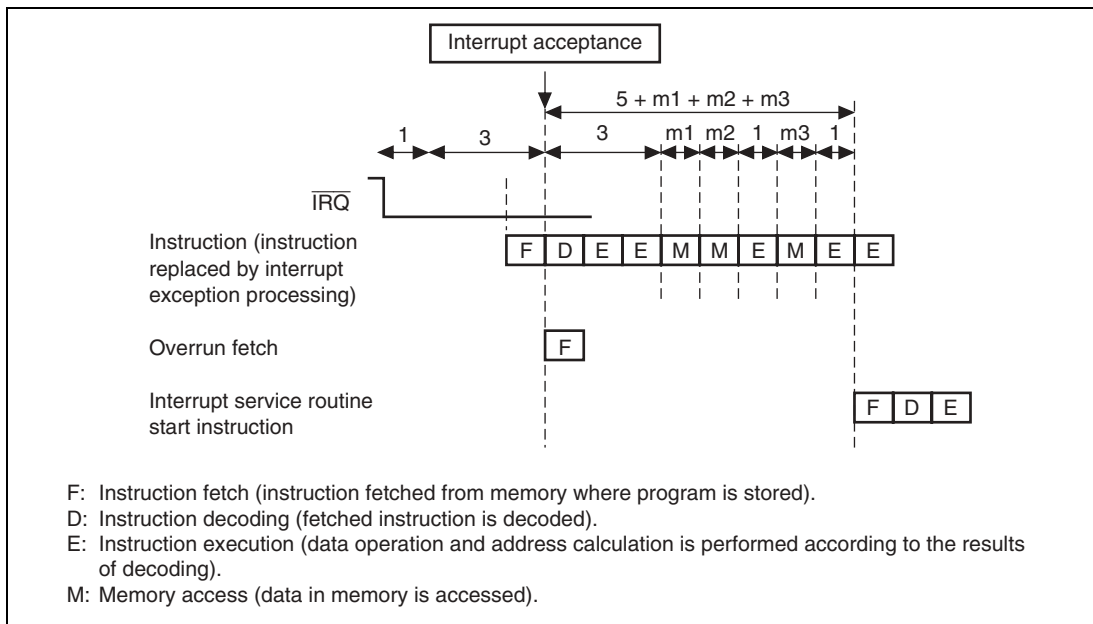

**Figure 6.5 Example of Pipeline Operation when IRQ Interrupt is Accepted**
3. The interrupt controller compares the priority level of the selected interrupt request with the interrupt mask bits (I3 to I0) in the CPU's status register (SR). If the request priority level is equal to or less than the level set in I3 to I0, the request is ignored. If the request priority level is higher than the level in bits I3 to I0, the interrupt controller accepts the interrupt and sends an interrupt request signal to the CPU.
5. The CPU detects the interrupt request sent from the interrupt controller when CPU decodes the instruction to be executed. Instead of executing the decoded instruction, the CPU starts interrupt exception processing (figure 6.5).
7. The priority level of the accepted interrupt is copied to the interrupt mask level bits (I3 to I0) in the status register (SR).
8. When the accepted interrupt is sensed by level or is from an on-chip peripheral module, a high level is output from the  $\overline{\text{IRQOUT}}$  pin. When the accepted interrupt is sensed by edge, a high level is output from the  $\overline{\text{IRQOUT}}$  pin at the moment when the CPU starts interrupt exception processing instead of instruction execution as noted in (5) above. However, if the interrupt controller accepts an interrupt with a higher priority than the interrupt just to be accepting, the  $\overline{\text{IRQOUT}}$  pin holds low level.
Table 6.3 lists the interrupt response time, which is the time from the occurrence of an interrupt request until the interrupt exception processing starts and fetching of the first instruction of the interrupt service routine begins. Figure 6.5 shows an example of the pipeline operation when an IRQ interrupt is accepted.